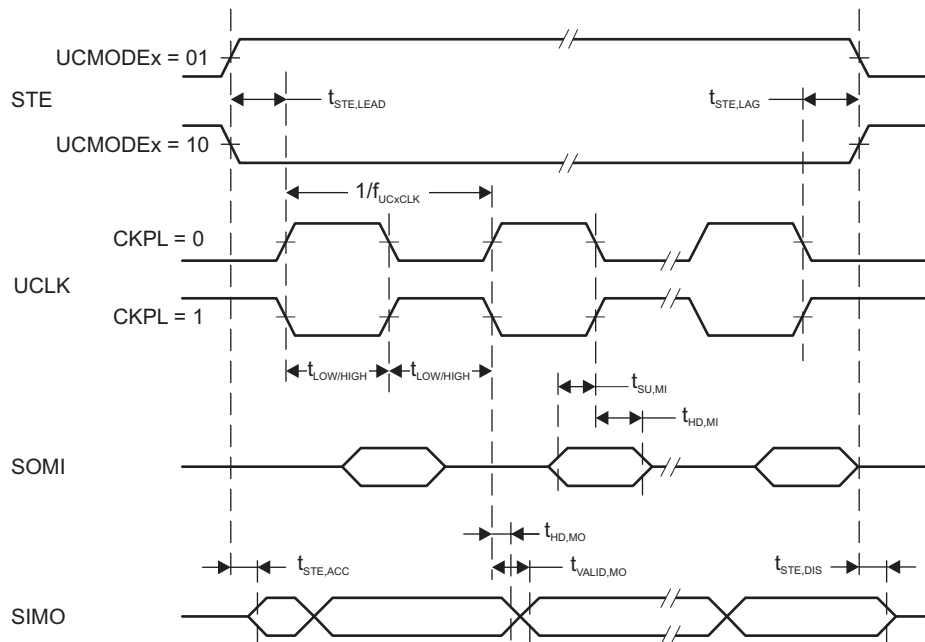
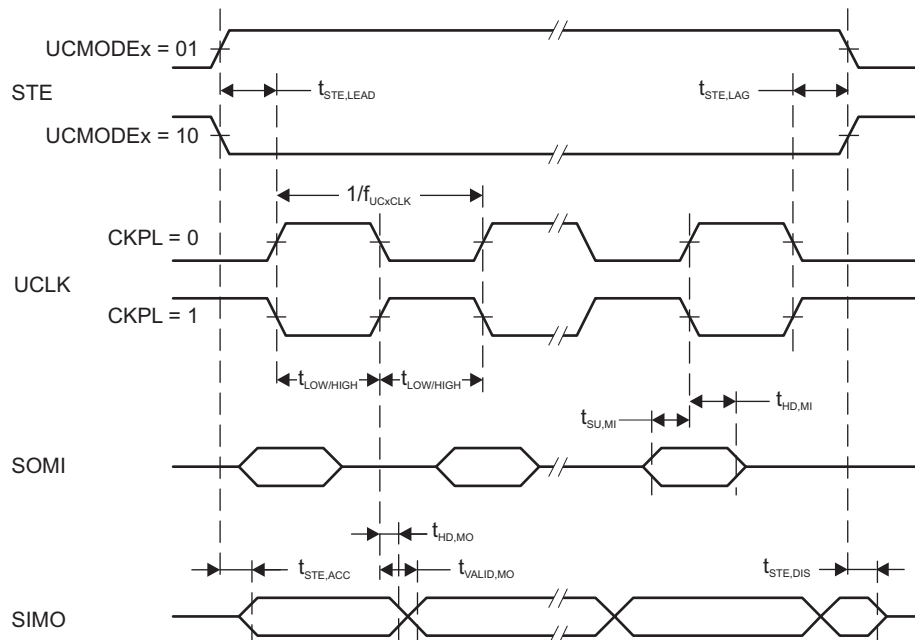

Figure 5-15. SPI Master Mode, CKPH = 0
Figure 5-16. SPI Master Mode, CKPH = 1
- (2) Specifies the time to drive the next valid data to the SIMO output after the output changing UCLK clock edge. See the timing diagrams in Figure 5-15 and Figure 5-16.
- (3) Specifies how long data on the SIMO output is valid after the output changing UCLK clock edge. Negative values indicate that the data on the SIMO output can become invalid before the output changing clock edge observed on UCLK. See the timing diagrams in Figure 5-15 and Figure 5-16.